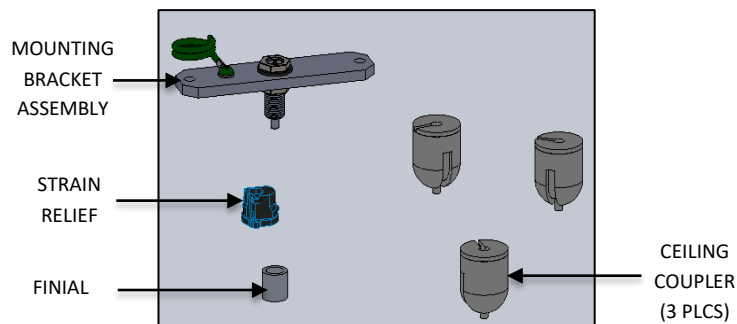
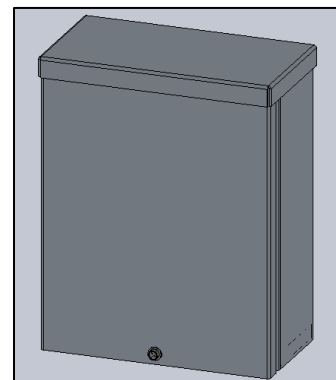

FIG. 5 - MOUNTING KIT CONTENTS
FIG. 6 - REMOTE DRIVER BOX WITH DRIVER INSTALLED
- b. MOUNTING KIT (as shown in FIG. 5)
- iv. THREE (3) CEILING COUPLER (CC)
4. REMOTE DRIVER BOX WITH DRIVER INSTALLED (as shown in FIG. 6)